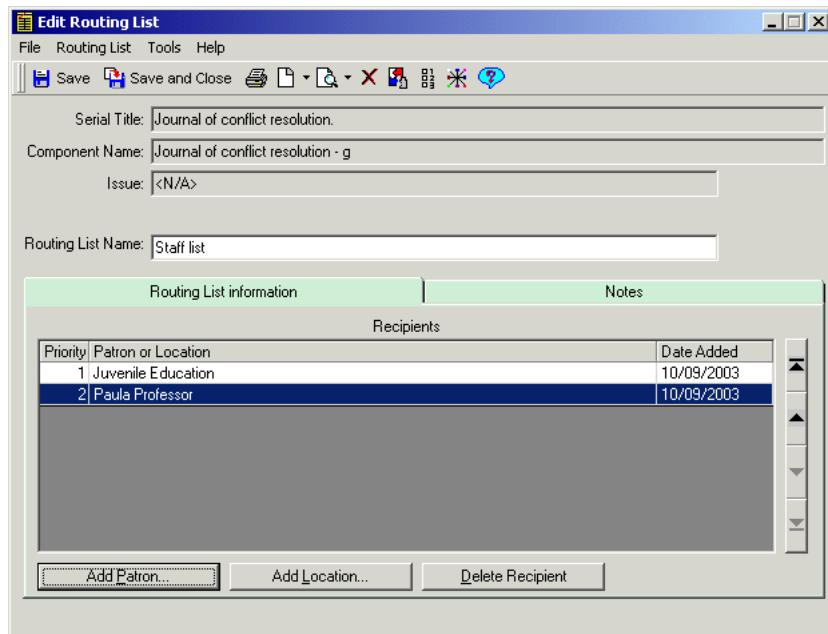

Figure 8-25. Edit Routing List dialog box
1. On the **Routing Lists** tab, select the routing list that you want to delete and click the **Edit** button or press **Alt + I** on your keyboard. The **Edit Routing List** dialog box opens (see Figure 8-25).